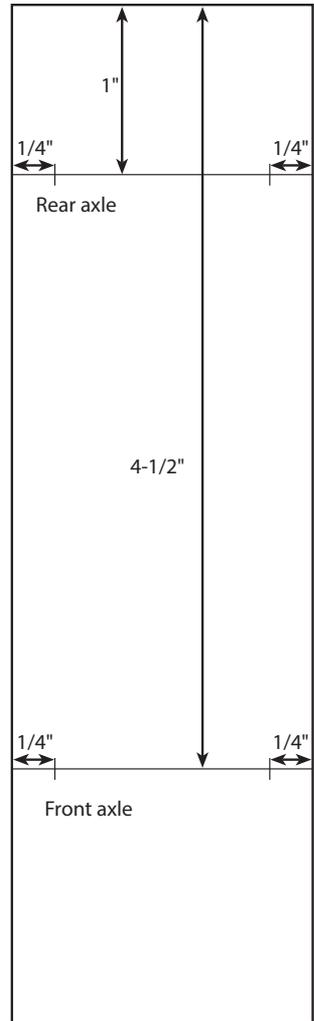

Figure 1
2. Measure 1" from one of the ends of the chassis board. At that measurement, make a mark on both sides of the chassis board. Using the ruler, draw a straight line across the board that lines up with the two marks (Figure 1). This is where the rear axle will go.
3. From the same end, measure 4-1/2" back and make a mark on both sides of the chassis board. Again, use the ruler to draw a straight line across the board that lines up with the two marks (Figure 1). This is where the front axle will go.
4. At both ends of each axle line, measure 1/4" and make a mark intersecting with the axle line (Figure 1). These four marks will be where the screw eyes are placed.